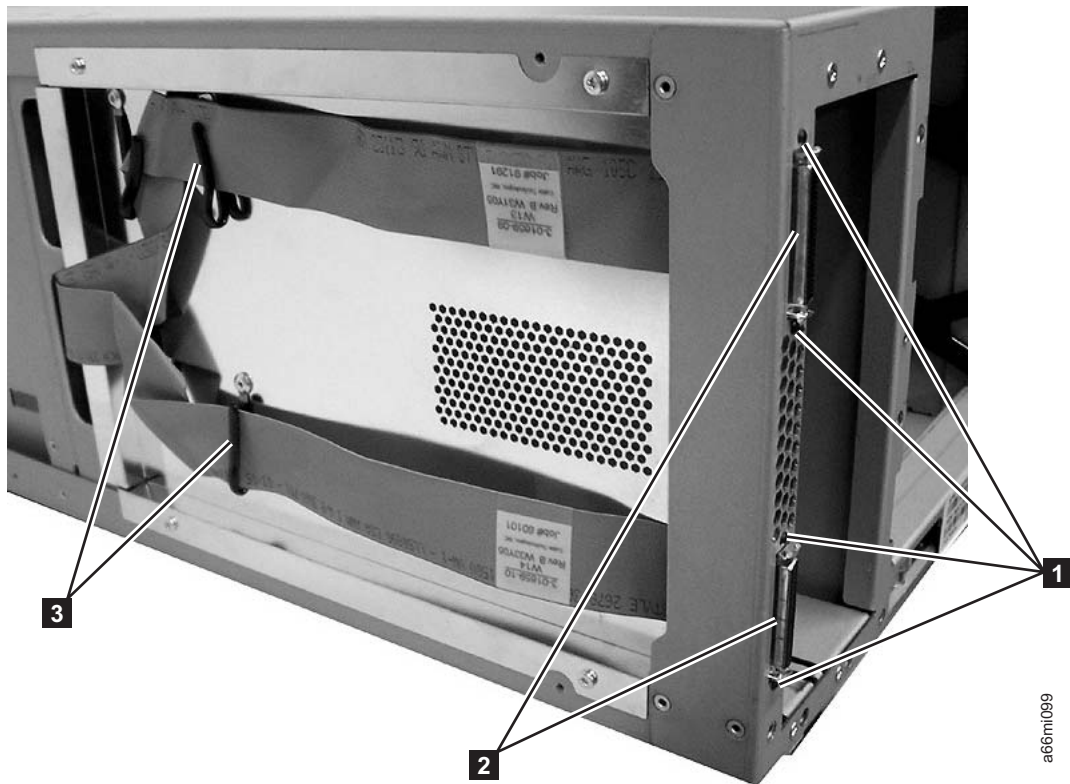

Figure 8-68. D-shell connectors and flat cables, side cover removed
- c. Remove the terminator(s) from the 2 D-shell connectors (**2** in Figure 8-68 on page 8-71) on the back of the control module, if necessary.
- d. Remove the 4 T6 Torx screws (**1** in Figure 8-68) holding the 2 D-shell connectors (**2** in Figure 8-68) on the back of the control module. Carefully remove the 2 flat cables (**3** in Figure 8-68) and D-shell connectors from under the cable retainers on the side of the enclosure.